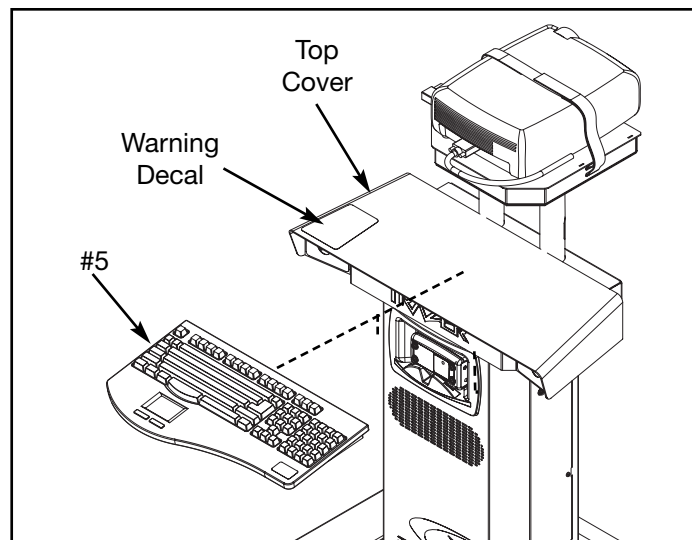

Figure 6
- C. Place keyboard (#5) towards the right side of the top cover of cabinet. Ensure that velcro adheres to top of cabinet. See Figure 6.